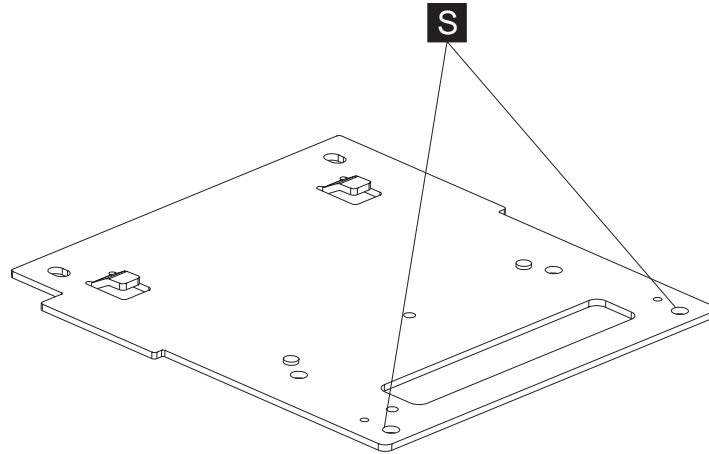

Figure 25. Attaching the base foot to the countertop
3. Use the SurePOS 500 base plate as a pattern for drilling two mounting-screw holes at location **S** in Figure 25 on page 41. If you plan to route the cables underneath the counter, use the base plate as a pattern to drill the cable opening and for drilling the holes for the mounting screws.